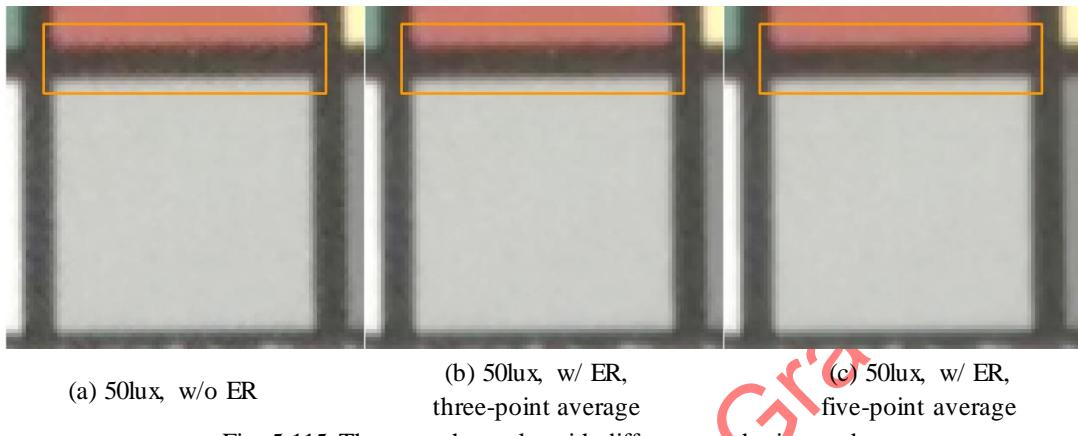

Fig. 5-115 The smooth results with different mask size mode
- In general case, we usually use five-point average. However, you still can compare the results of the two modes and check which mode works better. As shown in Fig. 5-115.